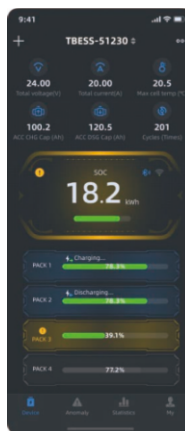

Figure 3
3)Figure 3: When the device is abnormal, click on the abnormal information (blue alarm, yellow protection, red fault indicator) to jump to the "**Abnormal**" page to view details.